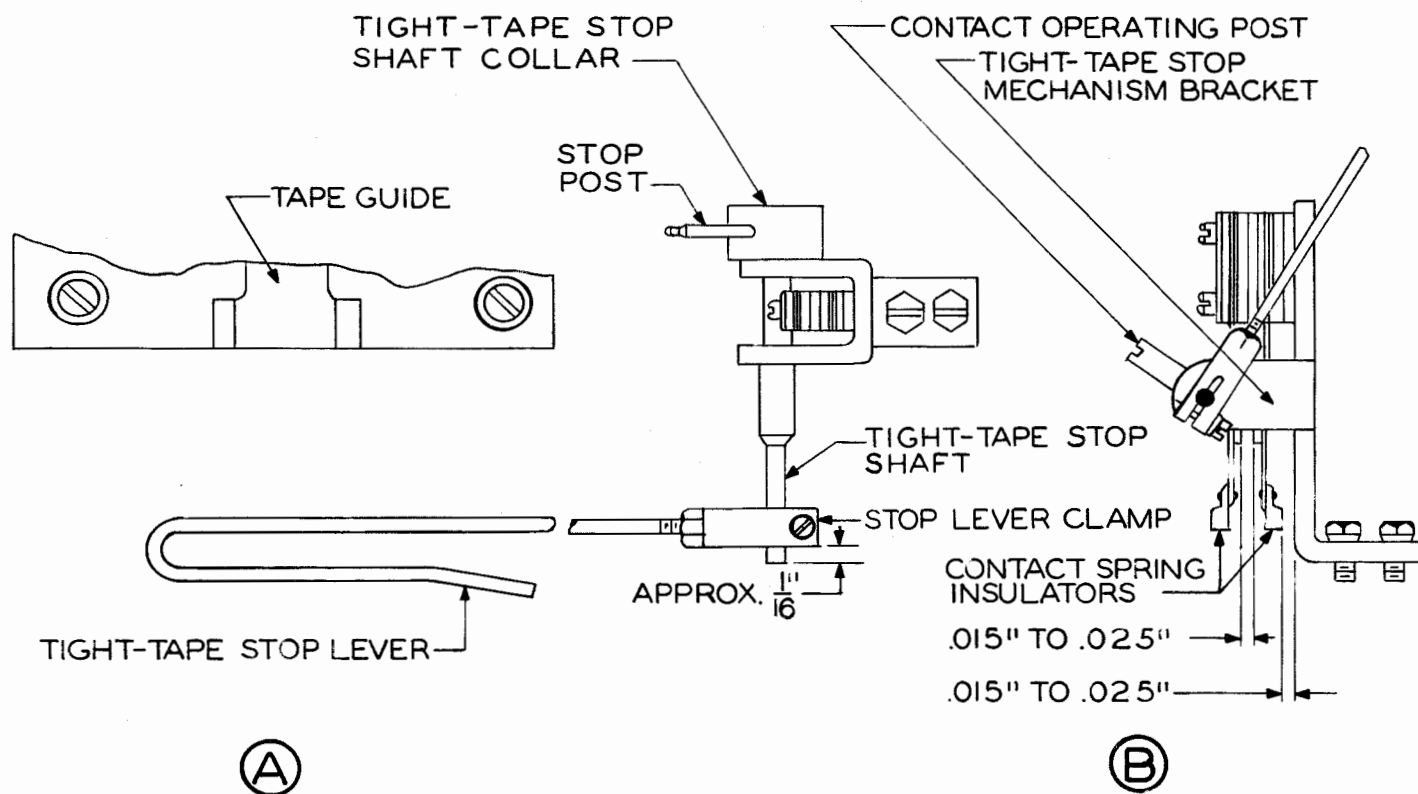

Figure 31
6.01 When the contacts are held closed by the contact operating post, the tight-tape stop-lever shall be horizontal (or one inch below the horizontal when the transmitter-distributor operates at a faster speed than the unit preparing the tape) and the tight-tape stop shaft shall protrude approximately 1/16 inch beyond the stop-lever clamp. [See Figure 31(A)].
6.03 When the contact operating post is held away from the left contact-spring insulator, there shall be minimum 0.015, maximum 0.025 inch clearance between the contact points, and minimum 0.015, maximum 0.025 inch clearance between the right contact-spring insulators and the tight-tape mechanism bracket. [See Figure 31(B).]